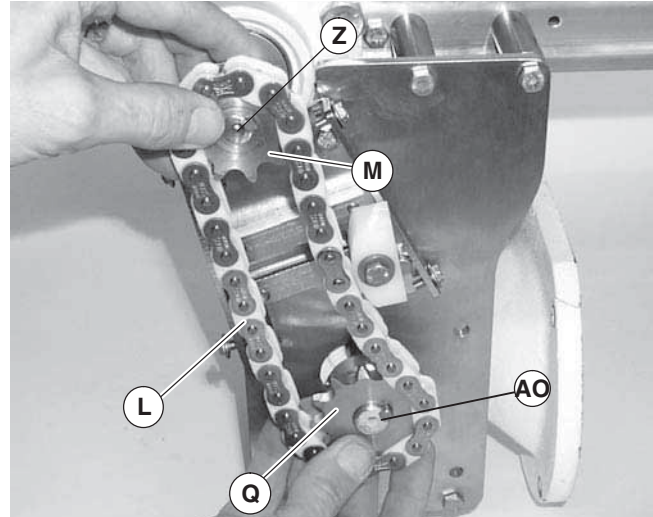

Figure 31
Make sure sprocket keys are installed on conveyor input shaft (Figure 31, item Z) and gear reducer output shaft (AO).
6. Install timing chain (L) over sprockets (M and Q). Install timing chain and sprockets on conveyor input shaft (Z) and gear reducer output shaft (AO). Do not tighten sprocket set screws.